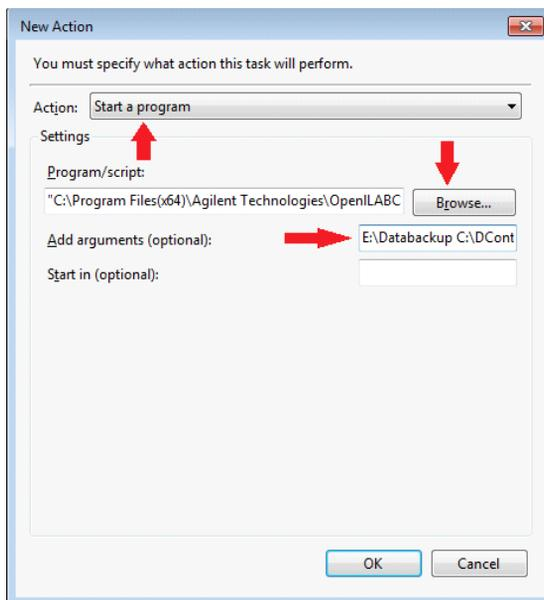

Figure 13 Example arguments
- **Add arguments** from **Actions > New** and enter the following directory paths consecutively, in quotes, and separated by a space: Data Backup Destination, Data Store Content, PostgreSQL Data file (Figure 13).